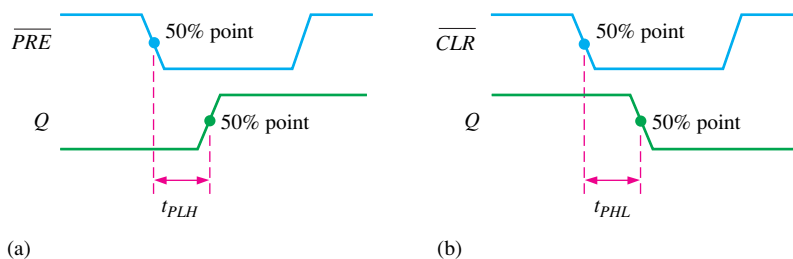

FIGURE 7-32 Propagation delays, preset input to output and clear input to output.
3. Propagation delay t_{PLH} as measured from the leading edge of the preset input to the LOW-to-HIGH transition of the output. This delay is illustrated in Figure 7-32(a) for an active-LOW preset input.
4. Propagation delay t_{PHL} as measured from the leading edge of the clear input to the HIGH-to-LOW transition of the output. This delay is illustrated in Figure 7-32(b) for an active-LOW clear input.